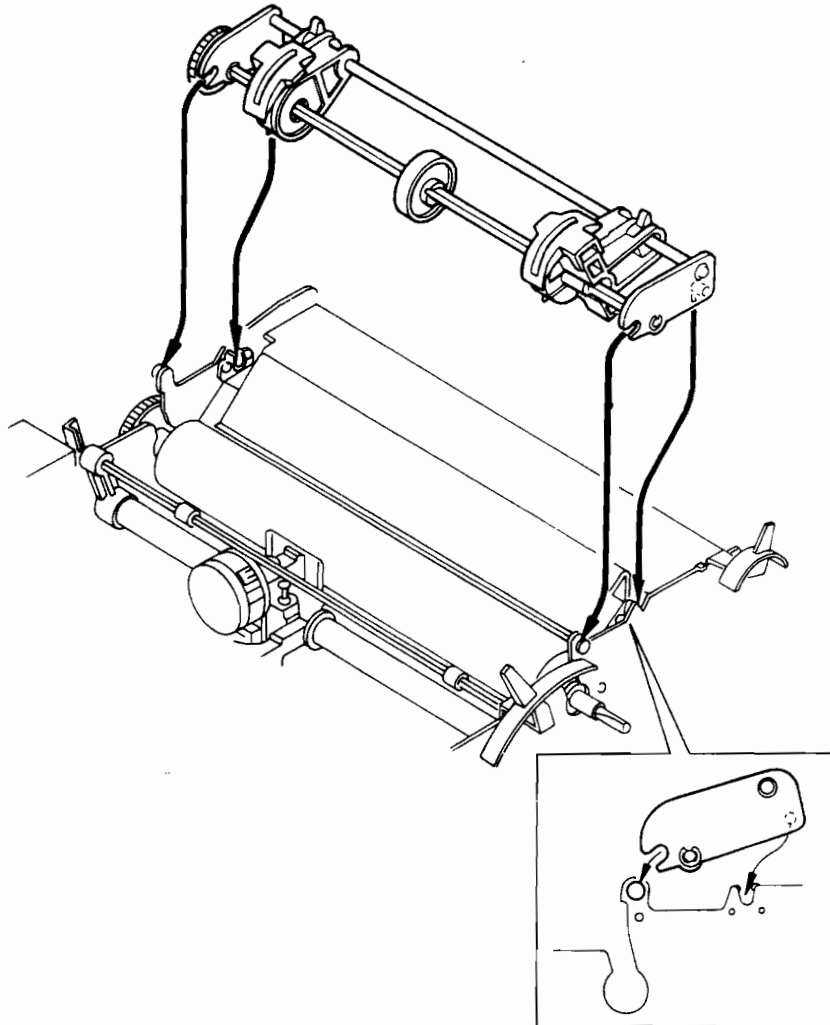

Figure 4 Installing the Tractor
2. Insert the claw slots (on the lower front sides of the Tractor) onto the Printer studs (see Figure 4).